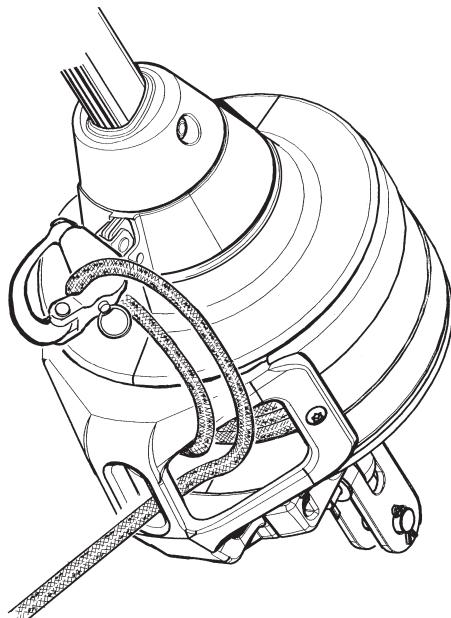

Fig: 6.2.a
- Secure the line in the tack snap shackle as per Fig: 6.2.a. Accidental unfurling is then prevented.